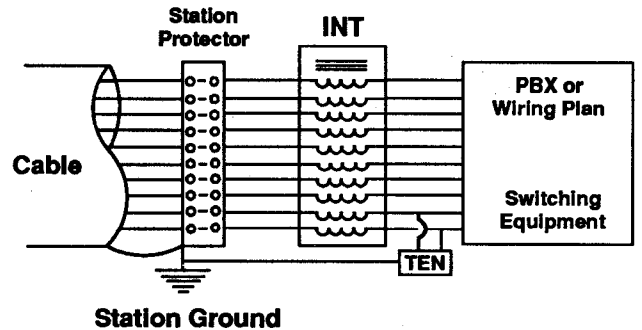

**Figure 17: Station-located INT at a PBX or Wiring Plan Location with Dedicated Exciting Pair**
7.04 To reduce noise caused by longitudinal power line influence acting on unbalances in PBX or wiring plan equipment, INTs can be located at the equipment location. It should be connected between the primary station protectors and the switching equipment. This arrangement also reduces the possibility of equipment malfunction or damage due to steady-state or transient power line influence. Figure 17 shows a dedicated pair being used to provide the exciting current path-to-ground. Figure 18 shows the arrangement if utilizing a TEN on one of the working circuits to provide the longitudinal exciting current path-to-ground.